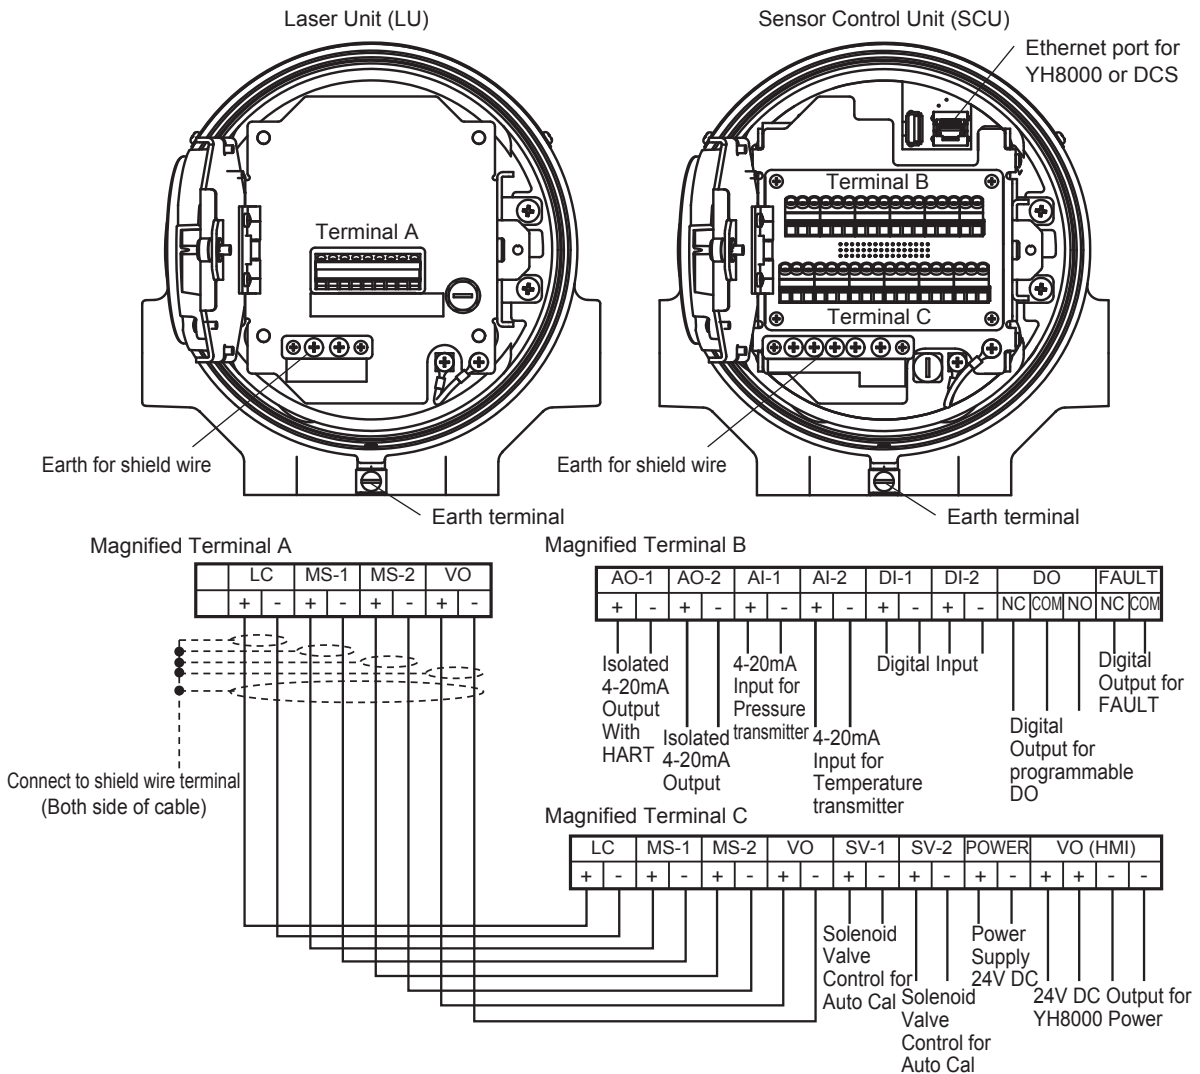

Figure 3.13 TDLS8000 wiring
To connect between the sensor control unit (SCU) and laser unit (LU), use the inter-unit cable of other selling (K9775XA to K9775XG, select according to the required cable length). Connect the inter-unit cable as shown in Figure 3.13.